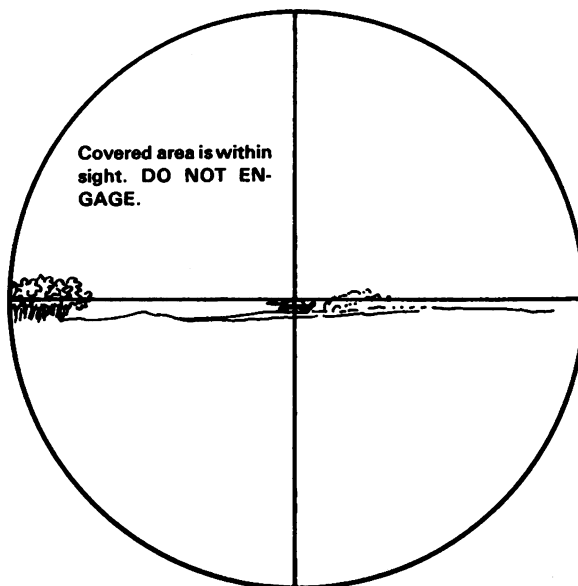

Figure 1.
- a. You can use the optical sight to determine if you have enough time to engage a moving target (figure 1).